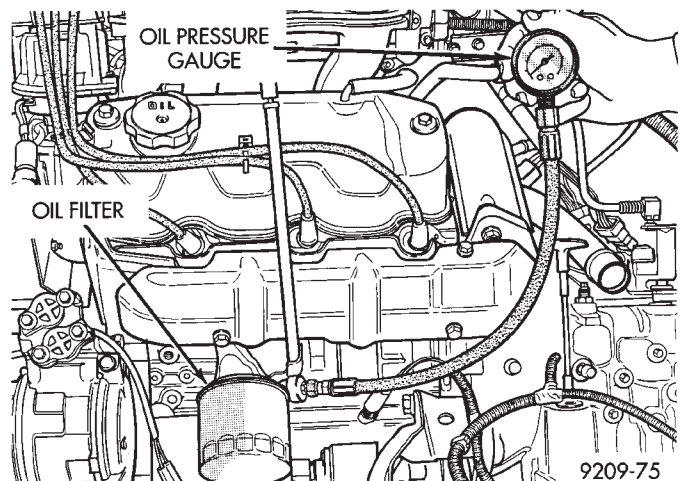

Fig. 11 Checking Oil Pump Pressure
- (1) Remove pressure sending unit and install oil pressure gauge. (Fig. 11)